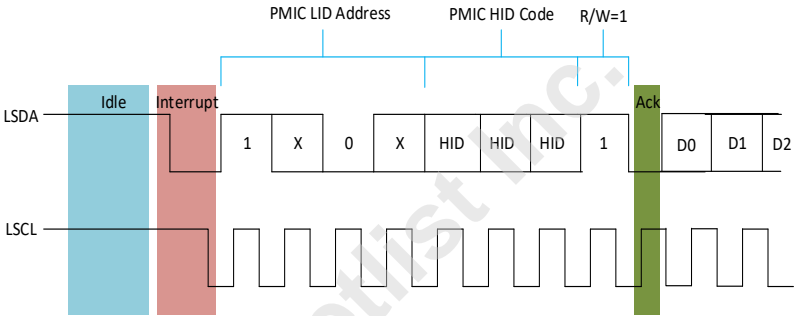

Figure 23 — PMIC Requests Interrupt, Host Ack followed by PMIC Device IBI Payload
- The Host sends ACK on 9th bit to accept the interrupt request. At this point, if the PMIC device confirms that it has won the arbitration, the PMIC device transmits the IBI payload as shown in Table 50 and Table 51 for PEC disabled and PEC enabled configuration respectively. See Figure 23. Figure 23 just shows only first two data bits of the MDB byte to illustrate the timing. The interrupt payload contains MDB followed by Table 103, “Register 0x08”, Table 104, “Register 0x09”, Table 105, “Register 0x0A”, Table 106, “Register 0x0B” & Table 146, “Register 0x33” bytes. The host then issues the STOP command. Note the timing waveform in Figure 23. The host then accepts the IBI payload if it sends an ACK on 9th bit to accept the interrupt request. The host can interrupt the IBI payload at T bit. If host stops the IBI payload at T bit in the middle of payload, the PMIC retains the IBI status flag (Table 105, “Register 0x0A” [1]) and Pending Interrupt Bits [3:0] internally and waits for the next opportunity to request an interrupt. If the PMIC device successfully transmits the entire IBI payload, it then clears IBI status flag (Table 105, “Register 0x0A” [1] = ‘0’) and Pending Interrupt Bits [3:0] = ‘0000’ on its own and does not request for an IBI again unless there is another different event occurs; for another same event, the device does not request for an IBI.